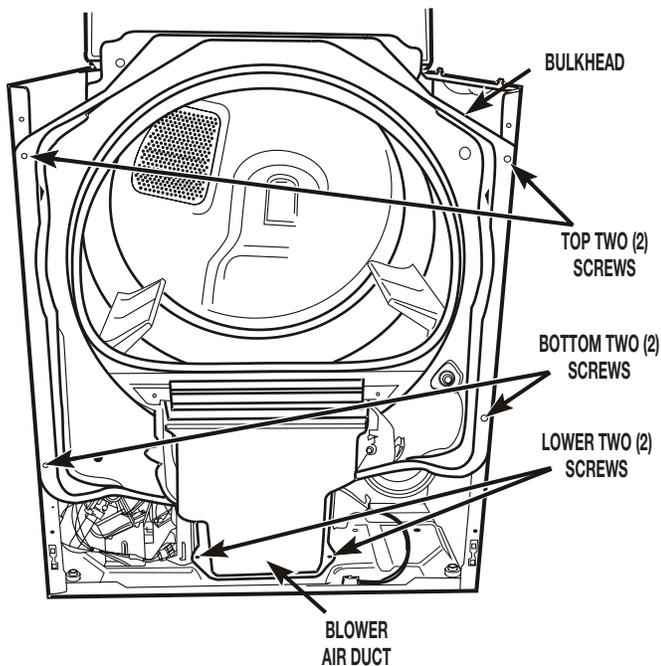

FIGURE 5
6. Loosen the top two (2) hex-head screws and remove the bottom two (2) hex-head screws from the front bulkhead. Remove the lower two (2) screws from the blower air duct. Gently remove the bulkhead and blower air duct from the front of the dryer. See Figure 5.